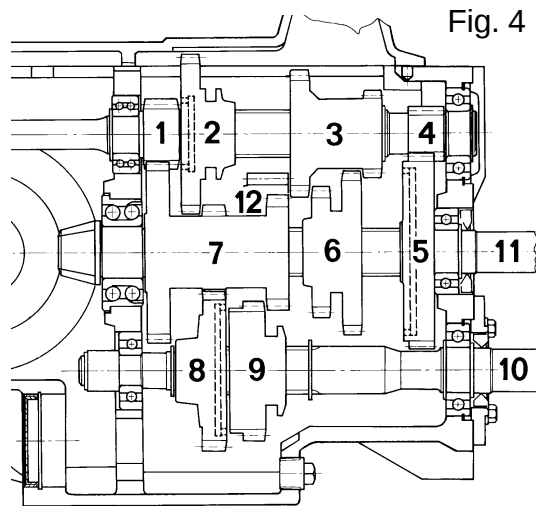

Fig. 4
- Tighten or loosen rod **H** in order to exactly align the teeth of gears **2** and **7** of (fig. 4) when one of the 3 speed gears is engaged.